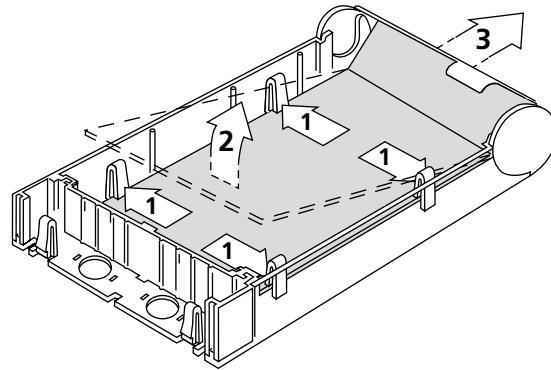

Figure 13. Circuit board replacement.
- 5 Press the four holding clips (1) and release the circuit board as shown (2 and 3), see figure 13 on page 10.